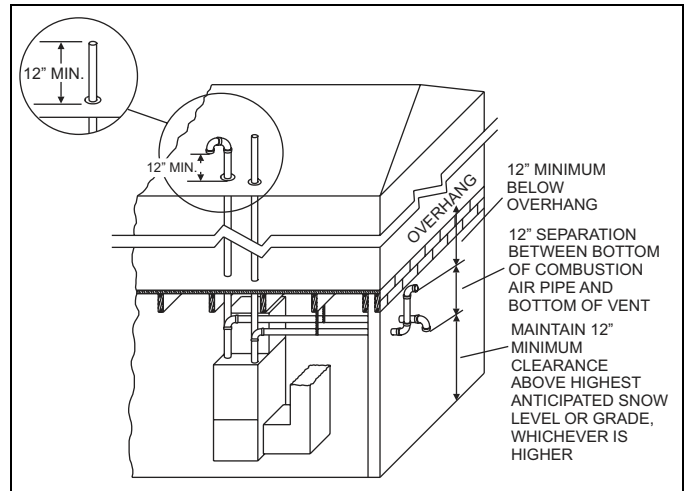
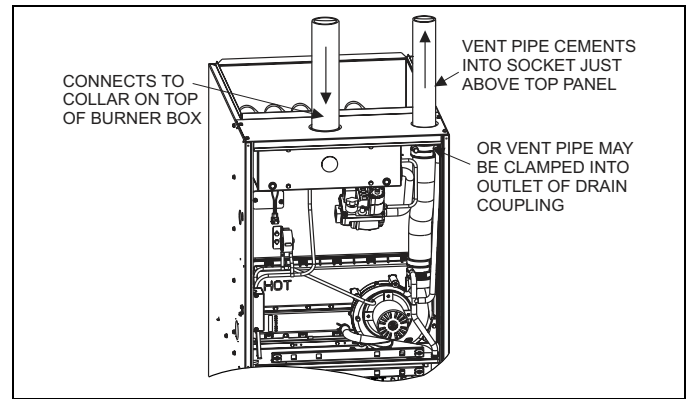
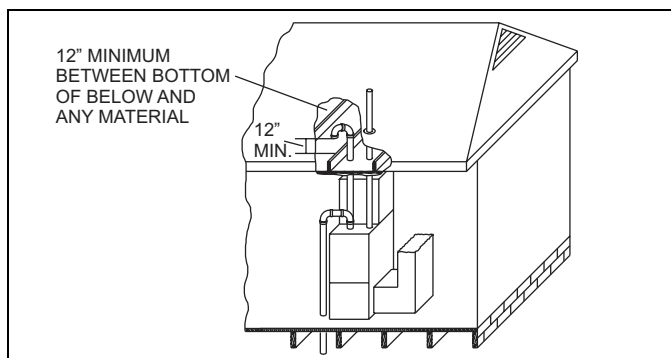

FIGURE 11: Termination Configuration - 2 Pipe Basement
FIGURE 14: Sealed Combustion Air Intake Connection and Vent Connection
FIGURE 17: Attic and Crawl Space Combustion Air Termination
The combustion air side of the single pipe configuration shown in Figure 17 is referred to in these instructions as ambient combustion air supply. Follow the instructions for ambient combustion air installations, paying particular attention to the section on air source from inside the building. The vent for a single pipe system must be installed as specified in the venting section of these instructions with the vent terminating as shown in Figures 14 or 15. Each furnace must have a separate vent pipe. Under NO circumstances can the two vent pipe be tied together.
The combustion airside of the two-pipe configuration shown in Figure 16 can be installed so the combustion air pipe terminates as described in outdoor combustion air or ventilated combustion air sections in these instructions. Follow the instructions for outdoor combustion air or ventilated combustion air and the instructions for installing the vent system with the vent terminating as shown in Figures 14 or 15. The two-pipe system must have a separate combustion air pipe and a separate vent pipe for each furnace. Under NO circumstances can the two combustion air or vent pipes be tied together. The combustion air and vent pipes must terminate in the same atmospheric zone.
2. **AMBIENT COMBUSTION AIR:** Combustion air is supplied from the area surrounding the furnace through vents or knockouts in the furnace casing. The combustion air and the vent pipes are not terminated in the same atmospheric zone. Refer to Figure 11 for vent terminations. Refer to "AIR SOURCE FROM INSIDE THE BUILDING" and "VENT AND SUPPLY AIR SAFETY CHECK" for proper installation. Refer to Figure 17.
This type installation will draw the air required for combustion from within the space surrounding the appliance and from areas or rooms adjacent to the space surrounding the appliance. This may be from within the space in a non-confined location or it may be brought into the furnace area from outdoors through permanent openings or ducts. It is not piped directly into the burner box. A single, properly sized pipe from the furnace vent connector to the outdoors must be provided. For upflow models combustion air is brought into the furnace through the unit top panel opening. Do not install a pipe into the intake collar on top of the burner box. Refer to Figure 17.